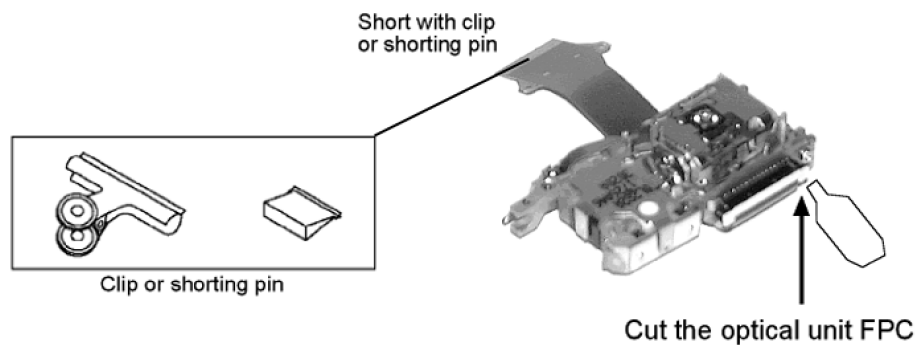

Fig. 9.1
2. Short-circuit the flexible cable of optical pickup remove from the circuit board using a short-circuit pin or clip in order to prevent laser diode from electrostatic destruction (Refer to Fig. 9.1 and Fig. 9.2)
3. Do not handle flexible cables forcibly as this may cause snapping. Handle the parts carefully (Refer to Fig. 9.1)
4. A new optical pickup is equipped with an anti-static flexible cable. After replacing and connecting to the flexible board, cut the anti-static flexible cable. (Refer to Fig. 9.1)